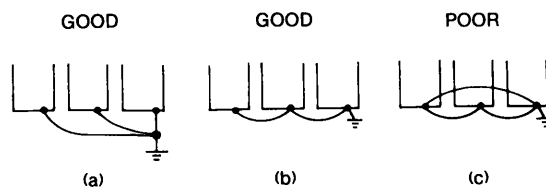

Fig. 4 Grounding of Three VS-616H3 Units
- (1) Ground resistance should be 100Ω or less.
- (2) Never ground VS-616H3 in common with welding machines, motors, and other large-current electrical equipment, or ground pole. Run the ground lead in a separate conduit from leads for large-current electrical equipment.
- (3) Use the ground leads which comply with AWG standards and make the length as short as possible.
- (4) Where several VS-616H3 units are used side by side, all the units should preferably be grounded directly to the ground poles. However, connecting all the ground terminals of VS-616H3 in parallel, and ground only one of VS-616H3 to the ground pole is also permissible (Fig. 4). However, do not form a loop with the ground leads.